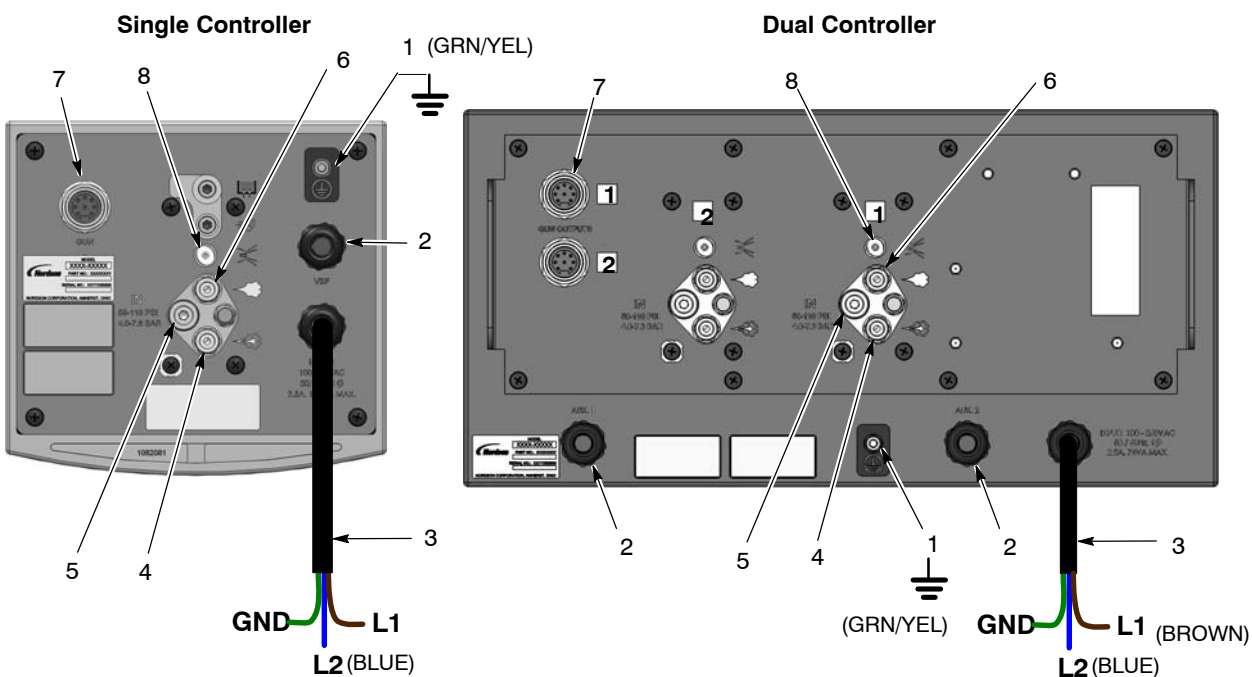
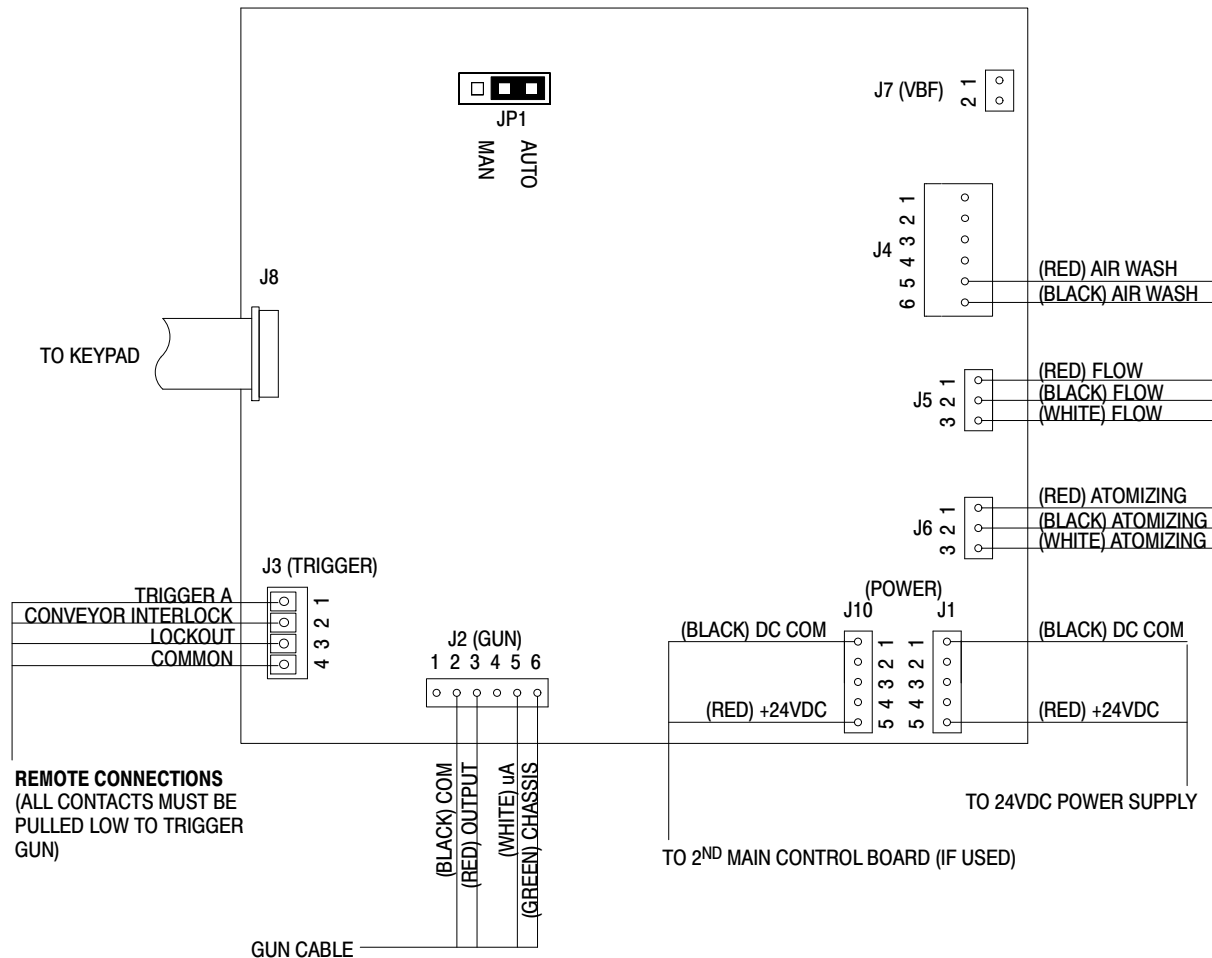
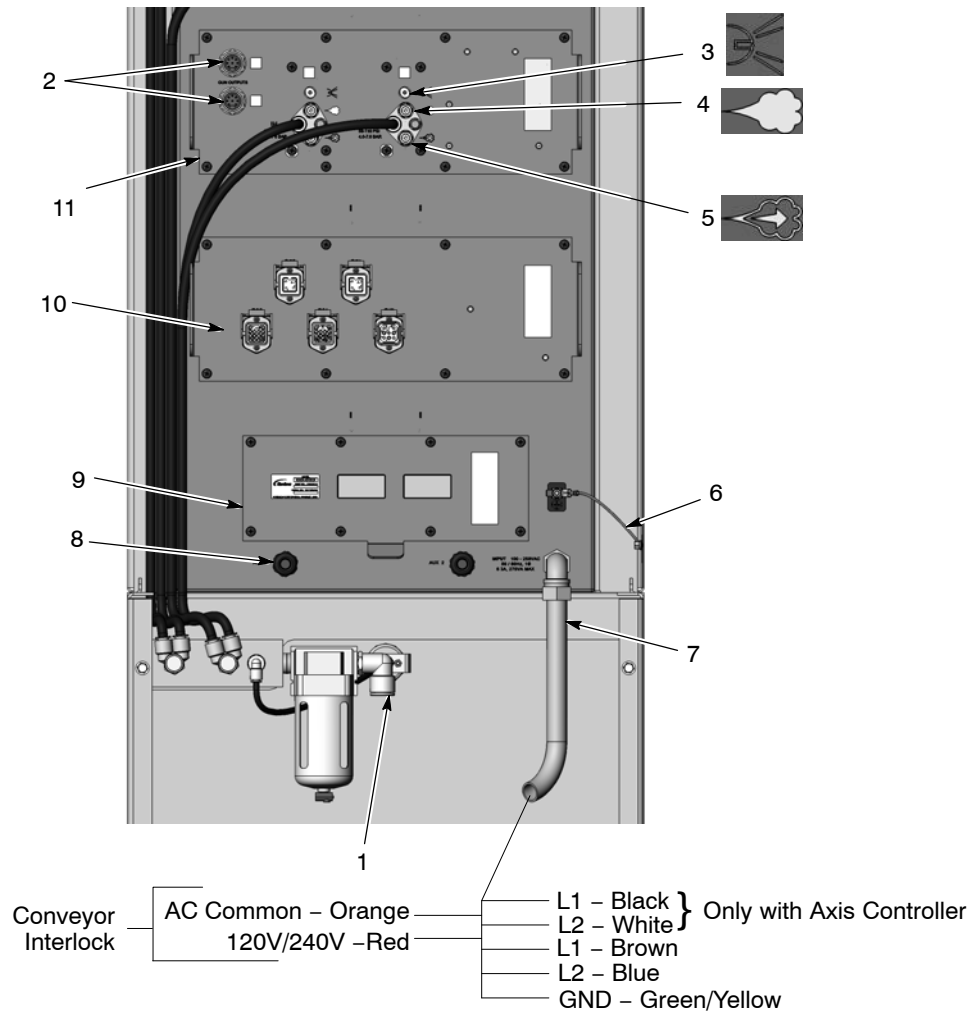

Figure 3-4 Single/Dual Automatic Gun Controller Connections
Figure 3-5 Single/Dual Automatic Gun Controller – Main Control Board Trigger/Interlock/Lockout Connections
Figure 3-6 Multi-Gun Controller – Power, Air, and Gun Connections (rear cover and rear kick panel removed)
Mount the controller on a flat surface with enough clearance around it to connect the power, air, and gun cable to the rear panel. Refer to Figure 3-4 for dimensions.
Position the multi-gun controller at the entrance or exit end of the booth, with access to both power and compressed air. Anchor the enclosure to the floor. Provide trays or covers to prevent damage to the gun and pump air tubing and gun cables. Refer to Figure 3-4 for dimensions.
Make connections as shown in Figure 3-4. See Figure 3-5 for remote trigger, conveyor interlock, and remote lockout connections.
See Figure 3-5. Bring the trigger and interlock cables into the enclosure through the AUX or VBF strain reliefs and connect them to the J3 terminals on the main control board(s). The Trigger A, Conveyor Interlock, and Lockout circuits are all sinking circuits. These circuits operate on 10 mA \pm 1.
Make connections as shown in Figure 3-6. See Figure 3-5 for external trigger and conveyor interlock connections.
See Figure 3-4. Supply compressed air to the controller at 4.0–7.6 bar (58–110 psi).
1. See Figures 3-4 or 3-6. Connect 4-mm clear electrode air wash tubing to the air wash connectors on the gun controller panels.
1. See Figures 3-4 or 3-6. Connect 8-mm black flow and blue atomizing air tubing to the gun controller connectors.
See Figure 3-5. Jumper JP1 on the Gun Main Control board must be placed in the AUTO position in order for it to function properly with automatic spray guns. If it is in the MAN position the guns cannot be triggered remotely. Refer to Troubleshooting to change the jumper position.